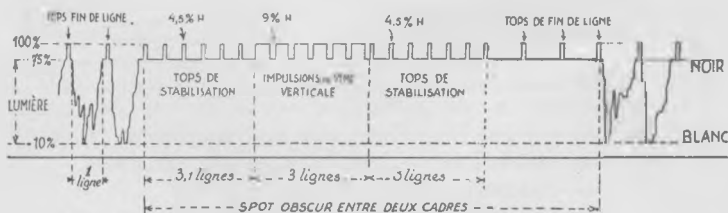

Fig. 9. — SIGNAL INTERNATIONAL C.C.I.R. (625 lignes).
c) *Signal international C.C.I.R.* (fig. 9).